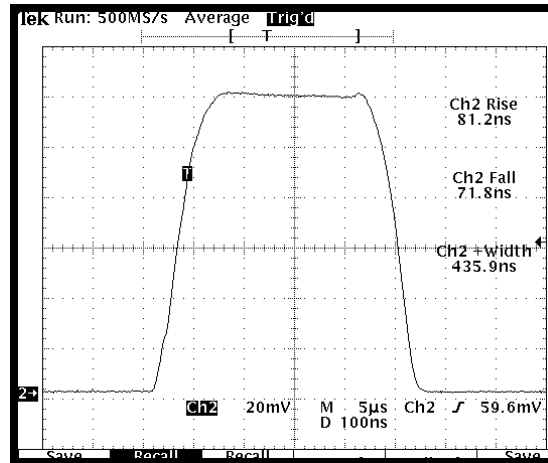

Figure 3-2. Example Of Acceptable Reply Pulse
3. Set the GTX 320 mode control select knob to the **ON** position. The reply pulse will be visible on the oscilloscope as shown in Figure 3-2. The pulse shape must possess the qualities listed in the table below.